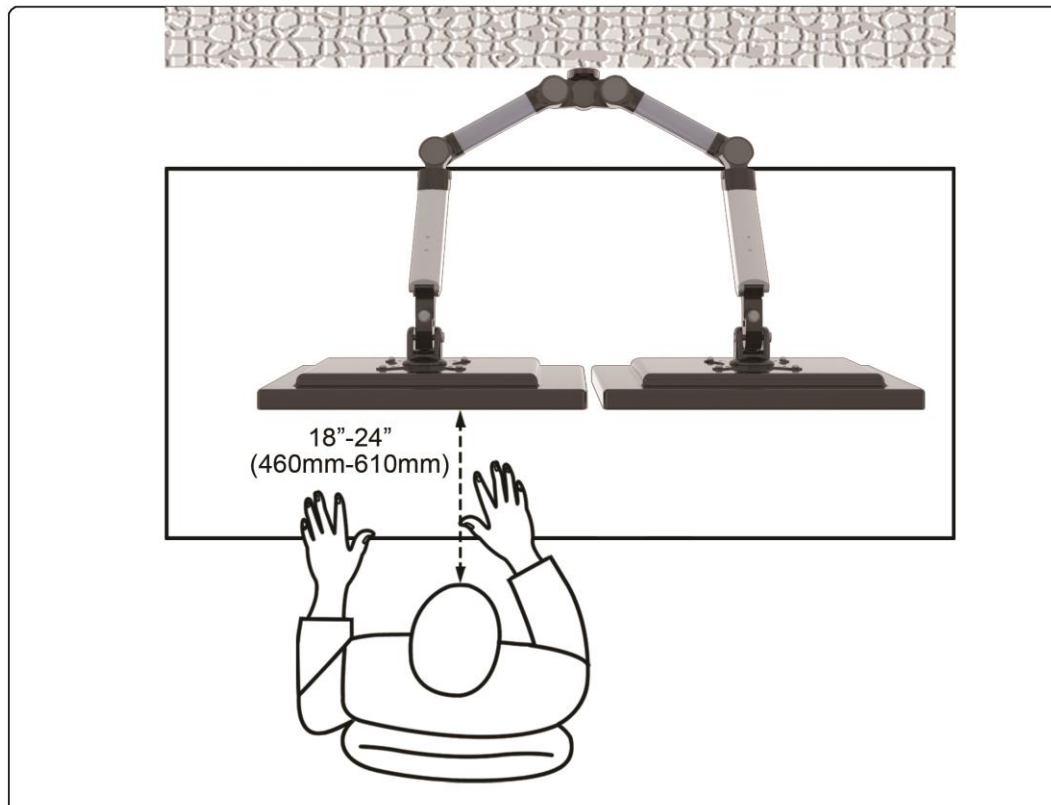

Figure 6-1
1. To ensure the correct focal distance for ultimate visual comfort, a viewing distance between 18" (460mm) to 24" (610mm) is recommended (**See Figure6-1**).